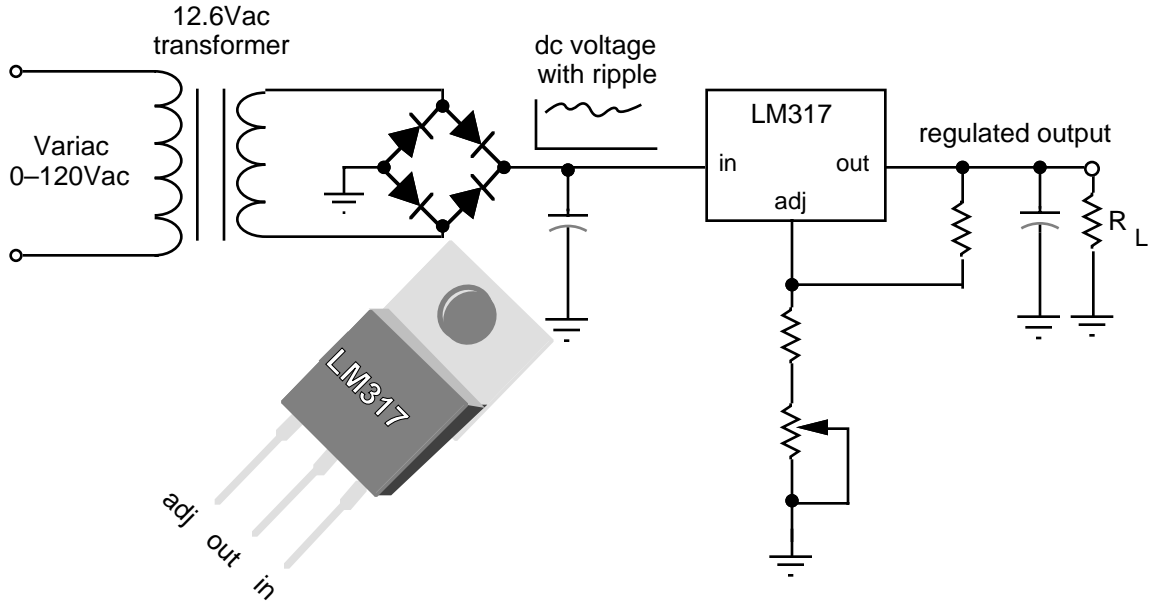

Fig. 11.2
a) Design a +5 V regulated power supply using the 317 and the diode bridge of Lab 4. The 317 maintains 1.25 V between the ADJ and OUT pins and the current in the ADJ lead is about 50  $\mu$ A. Provide a  $\pm 20\%$  voltage adjustment range with a trim pot. Figure 11.2 shows the skeleton design. Allow about 20% ripple on the output of the filter capacitor with a 1 k load. Test the regulator as in part 1. Measure the %LR, %SR and dropout voltage. Try to measure the ripple rejection.